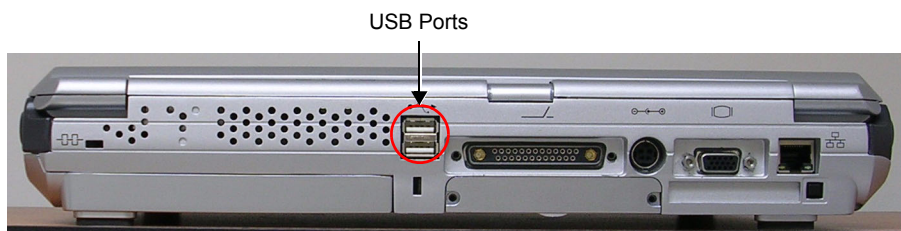

Figure 3-21 USB Ports Located at Rear of the Vivid-i™/ Vivid-q™
- 3.) Connect the other end of the USB cable to the Vivid-i™/ Vivid-q™ USB port at the rear of the Vivid-i™/ Vivid-q™ - see Figure 3-21.
- 5.) Connect the USB cable located on the SafeLock Cart main column, into the USB port located at the rear of the Vivid-i™ / Vivid-q™ system (Figure 3-21 on page 3-32).